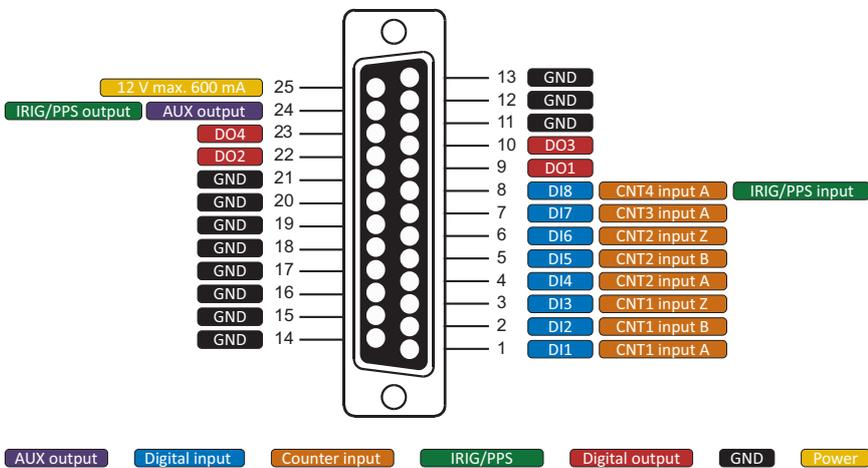

Fig. 5: Pin assignment D-SUB-25 connector
The supports an advanced counter via the pins 1–8 of the digital I/O connector shown in Fig. 5. For information regarding advanced counters refer to Functional description of advanced counter on page 189 of the TRION(3) series modules manual.